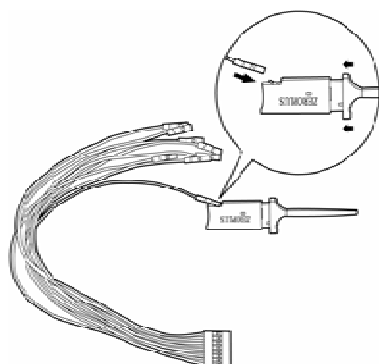

Fig. 2-8
- 3-2. Compress the probe as shown to reveal 2 metal prongs (Fig.2-8).